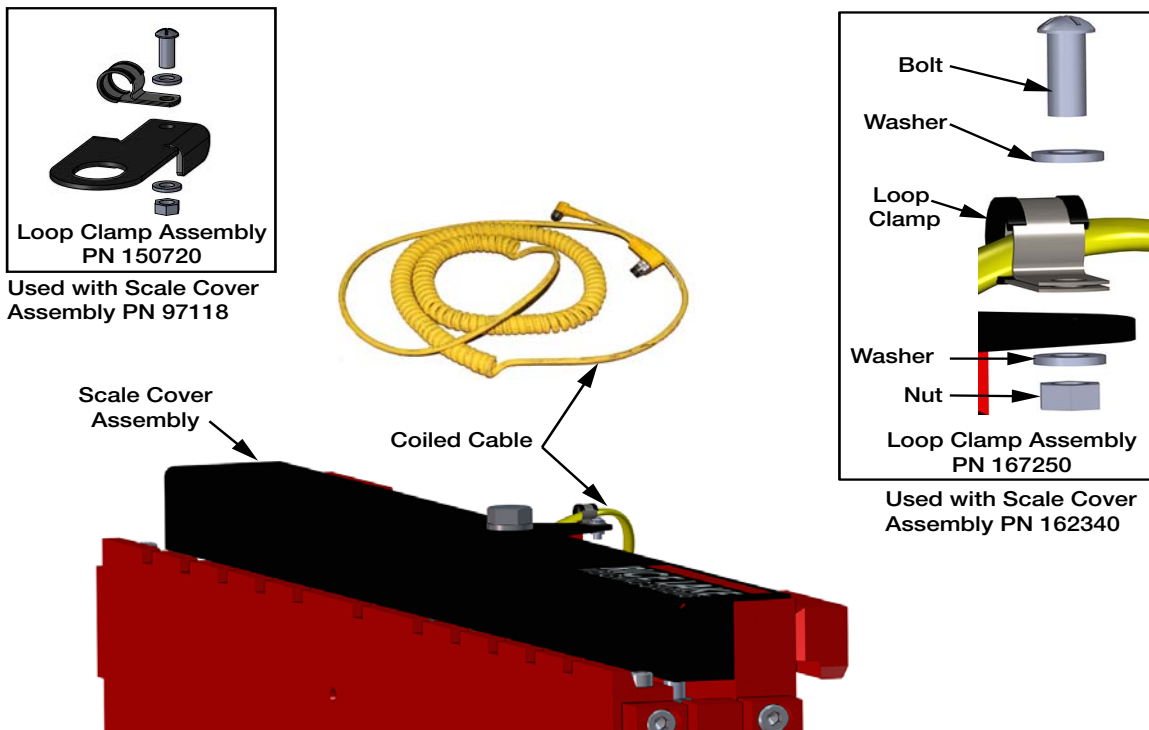

Figure 2-6. Connecting the Coiled Cable
1. Loosen the bolt holding the cover to the scale assembly and remove cover. See Figure 2-6.
4. Push the coiled interface cable through the hole in the scale and connect it to the j-box. See Figure 2-6.